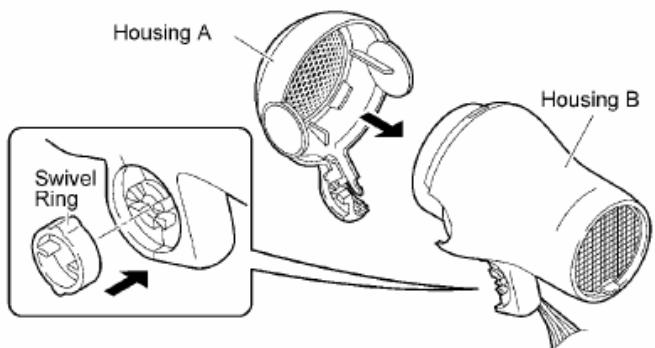

Fig. 2
3. Assemble the housing B into the housing A and insert the swivel ring as the following Fig.2.